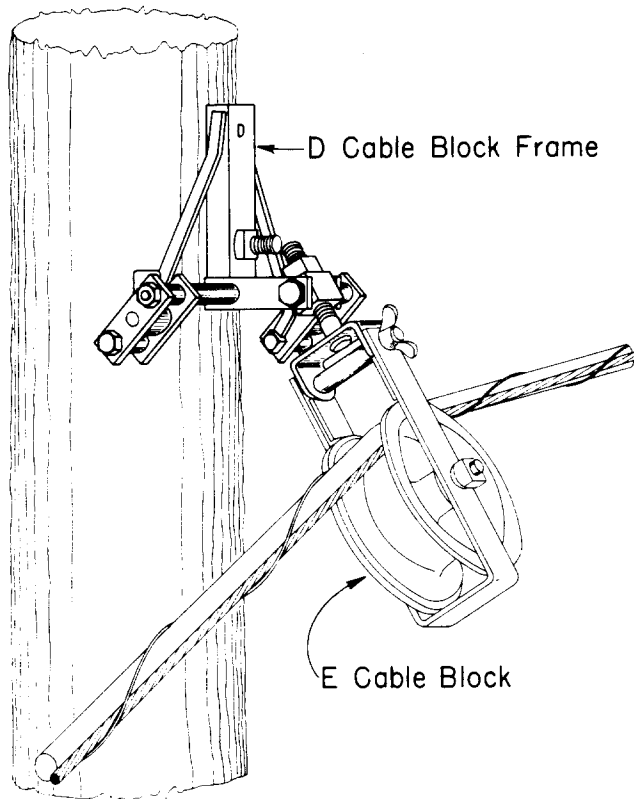

Fig. 10—D Cable Block Frame (With E Cable Block Installed)
6.04 The **D cable block frame** (Fig. 10) is used at inside corners where the pull is more than 3 feet but does not exceed 8 feet.